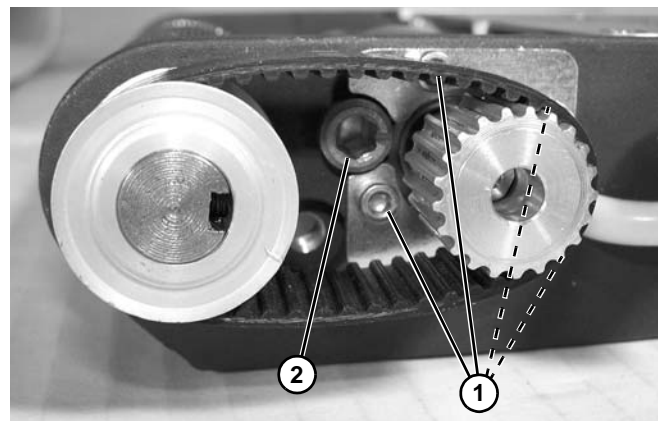

Figure 119
4. Loosen four clamp plate screws (**Figure 119, item 1**).
5. Loosen timing belt tension cam (**Figure 119, item 2**).